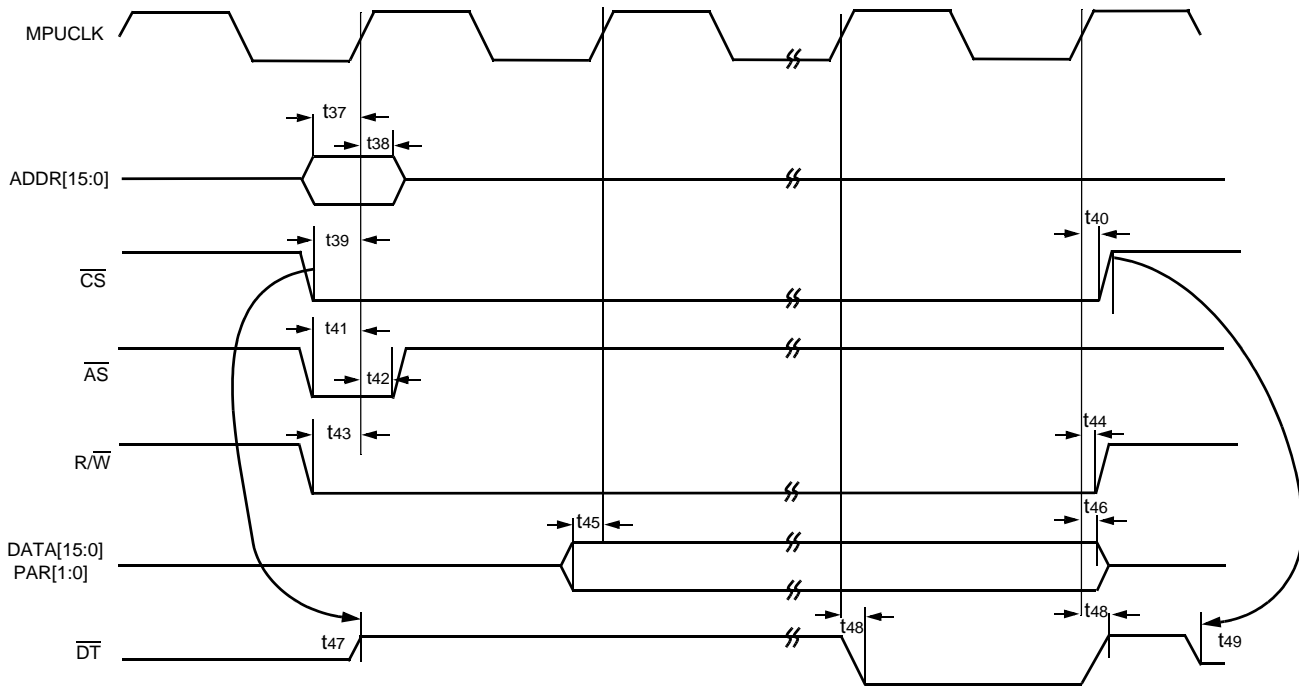

Figure 5-17. Microprocessor Port Timing—Write Cycle
**Note:** Posted writes follow the same timing shown in Figure 5-17 on page 29 and Table 5-7 on page 29. A posted write may return a DT prior to the device completing the write cycle. This allows the microprocessor to continue operation while the device completes the write.